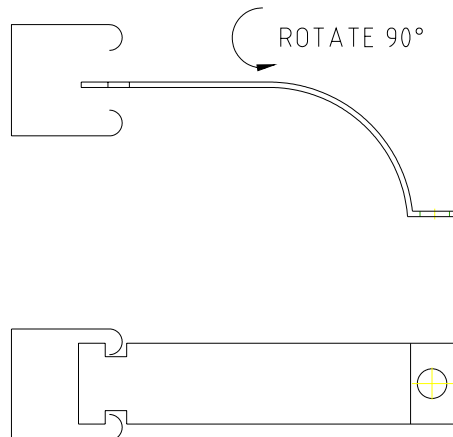

Figure 18
- Put the cylinder straps in the channel using their slots, and encircling the cylinder. The straps must be offered up in a horizontal position, until reaching the slots, and then rotated 90° until vertical, in such a way as the slots in the straps engage in the channel, as shown in Figure 18.
7. Fit the clamps in the channel by sliding them along the slots so that they hold the cylinders across their whole diameters. For this, the straps must be positioned horizontally, until reaching the slots, and then rotated 90° until vertical, in such a way that the slots in the strap engage in the channel, as shown in Figure 18.